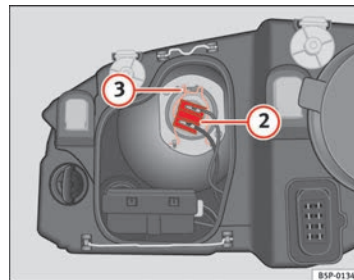

Fig. 189 Dipped beam headlights
- Remove the connector ⇒ page 275, fig. 189 ② from the bulb.
- Unclip the retainer spring ⇒ page 275, fig. 189 ③ pressing inwards to the right.